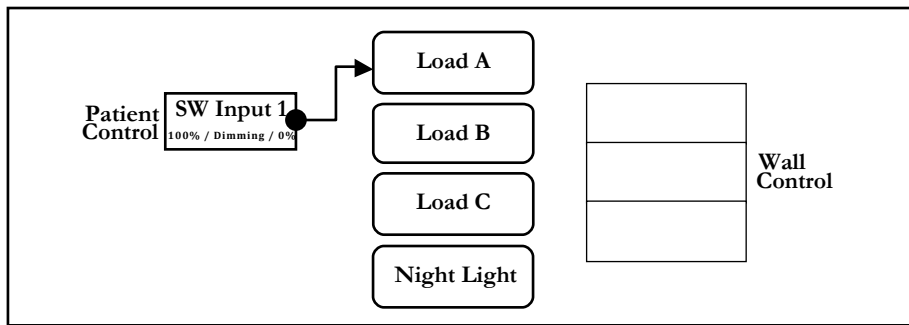

Figure 1: Individual Load, Single Button Patient Control and No Wall Control
Individual Mode allows for the control of up to three (3) LED lamping functions plus an integral LED night light (if ordered) via independent low-voltage, momentary-close switches. See Table 1 for input and output mapping. See Figures 1 and 2 for graphical representation of input and output mapping examples.